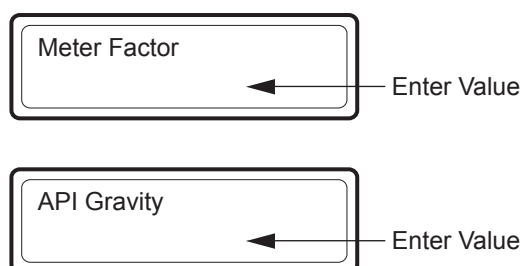

Figure 4.8—Configuration menus for compensated volume inputs
2. Press INCREMENT and ENTER buttons simultaneously, then release to enter the configuration menu (Figure 4.8, Page 37).
- a. Press STEP to select the digit to be changed and press INCREMENT to change the value (Figure 4.8).